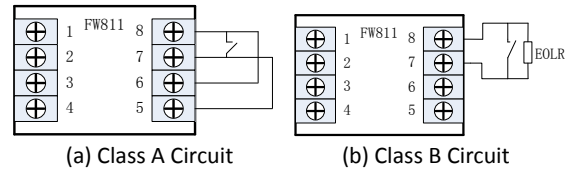

Figure 4 Wiring Diagram (Input Line Circuit)
4. Connect the input line circuit wires. See Figure 4. The maximum line impedance for input circuit is 25Ω .